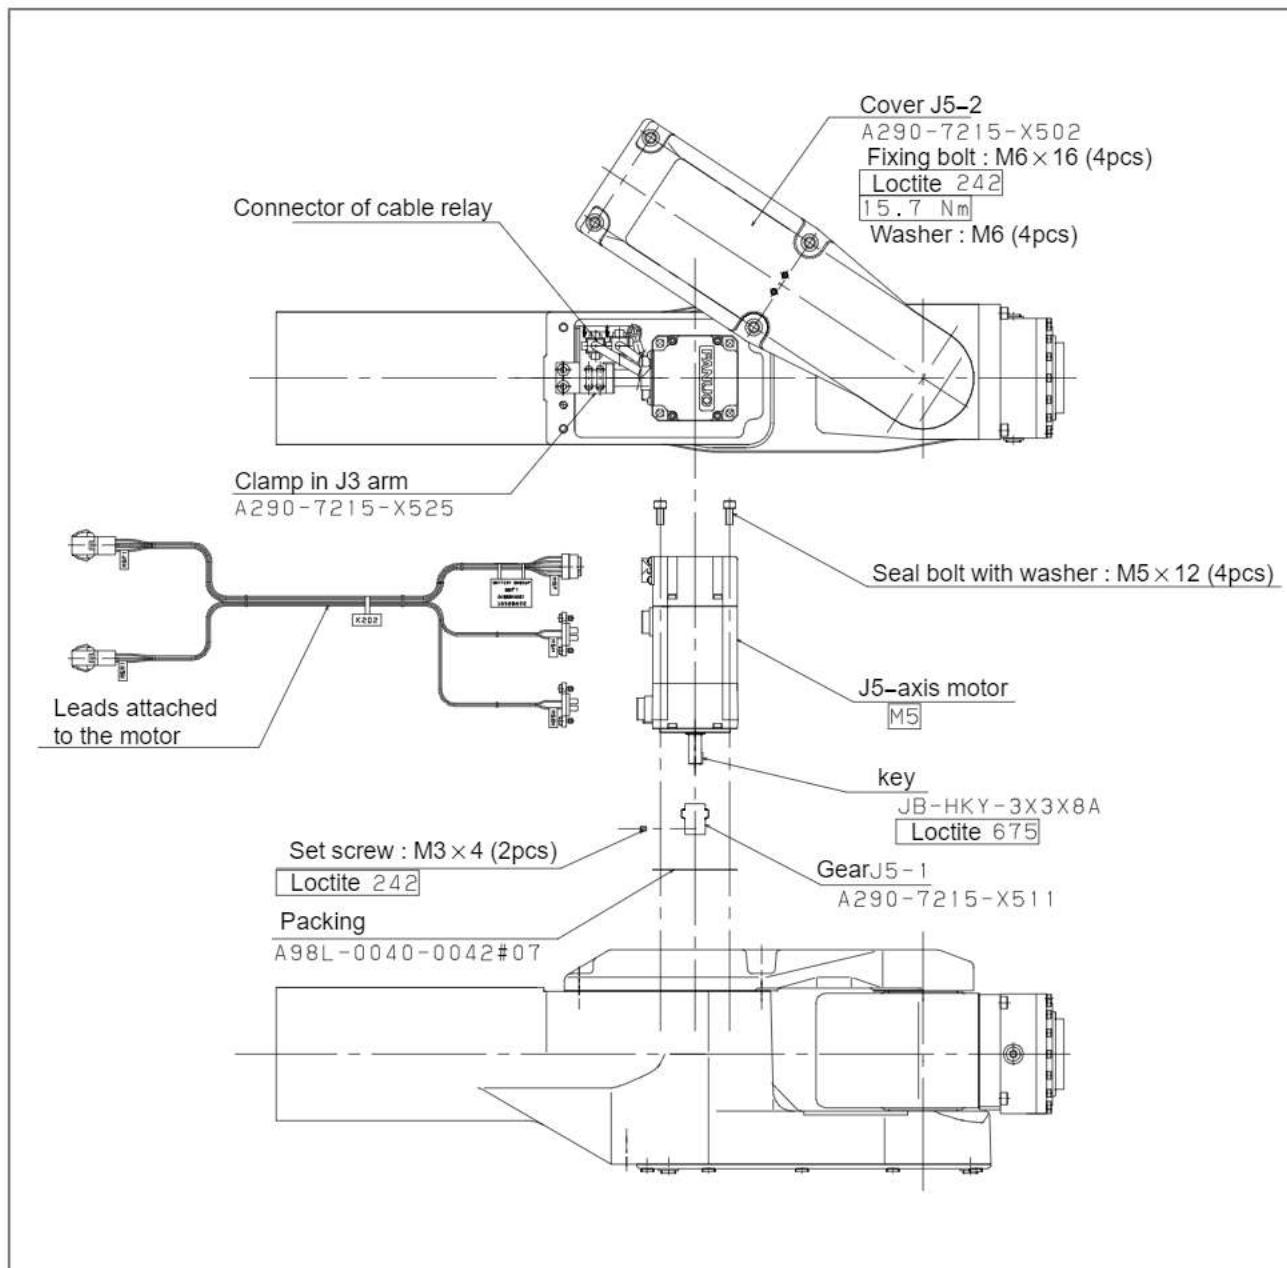

Fig 6.9 Replacing the J5-axis motor
- 3 As shown in Fig. 6.9, remove the four M6 × 16 bolts, rotate the J5-2 cover (A290-7215-X502) around the J5-axis to such a point that the J5 motor can be taken out, and fasten it to the J3 arm (A290-7215-X402) temporarily.